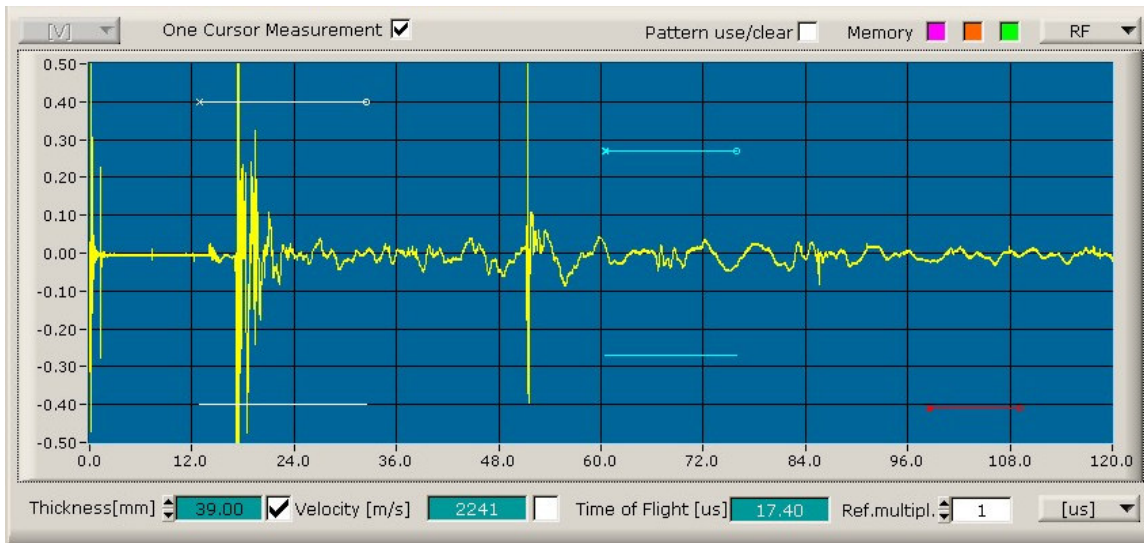

Fig.5 Measurement of parameters: time of flight, sound speed, distance, using TT method and one cursor.
First such parameters as window, delay, gain – depending on the measured object must be set and naturally the mode (TT). Now (as on the fig. 5) we must set the white gate so, that the signal transmitted through the object is inside. In the field “thickness” the correct thickness must be given. The sound speed in the measured material is shown in the field “Velocity”.